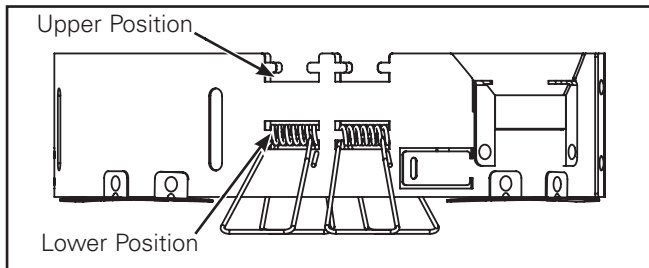

Figure 31
- Retrofit ring can be adapted to various ceiling thicknesses and plaster frame/housing heights by using different slot locations for mounting springs. LDRT8B/LDRT812B ships with springs in upper position for a combined ceiling and housing thickness greater than 1" and no more than 2". For ceiling/housing thicknesses between 0.5" and 1" mounting springs should be moved to lower position (Figure 31).